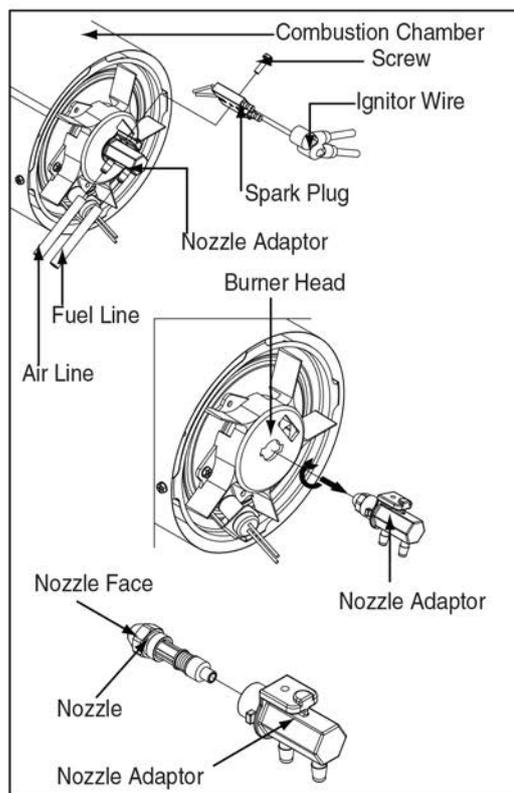

Figure 13. Remove Dirt in Nozzle
- Turn nozzle adaptor 1/9 turn (40°) to counter clock wise and pull toward motor to remove. (See Figure 13)